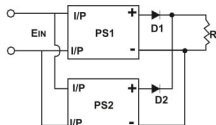

Figure 8: Paralleling with adding diodes in series connection
1. Add a diode at the positive output side on each power supply (as figure 8), the current rating of the diode should be larger than the maximum output current rating and attached it to a heat sink. This is only for the redundant use (increase the reliability of the system) and users have to check the suitability of the circuit by themselves.